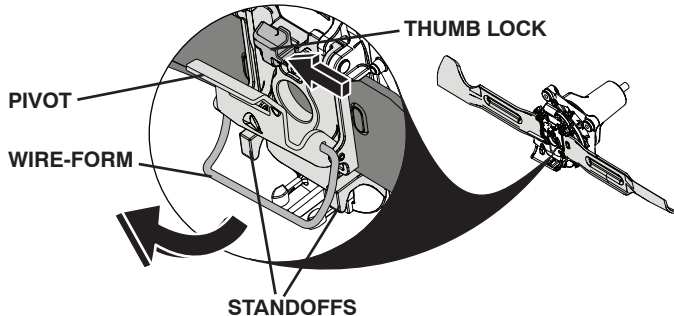

Fig. 17
- Slide thumb lock and release pivot to allow wire-form to swing free from standoffs. (See Fig. 17.)